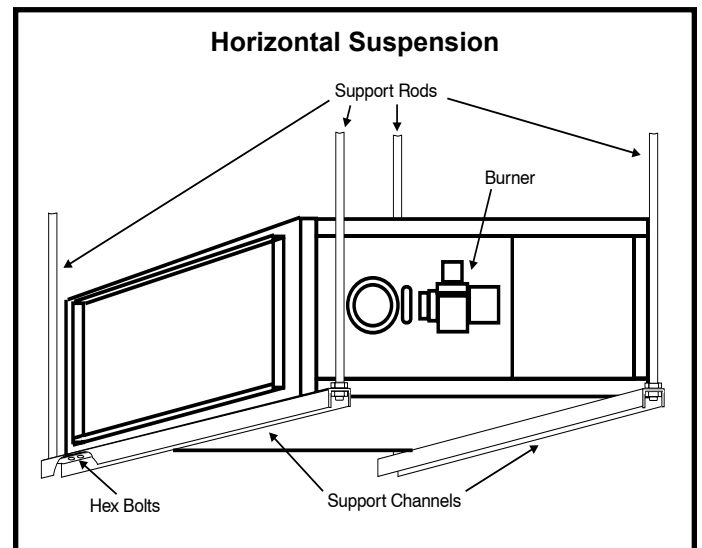

Figure 1
1. Install burner as shown in Figure 1. Follow the steps shown in **Upflow Installation**.
Use channel iron supports and 3/4" pipes or 1/2" rods to suspend the furnace. Follow these steps to suspend the furnace (see Figure 1):